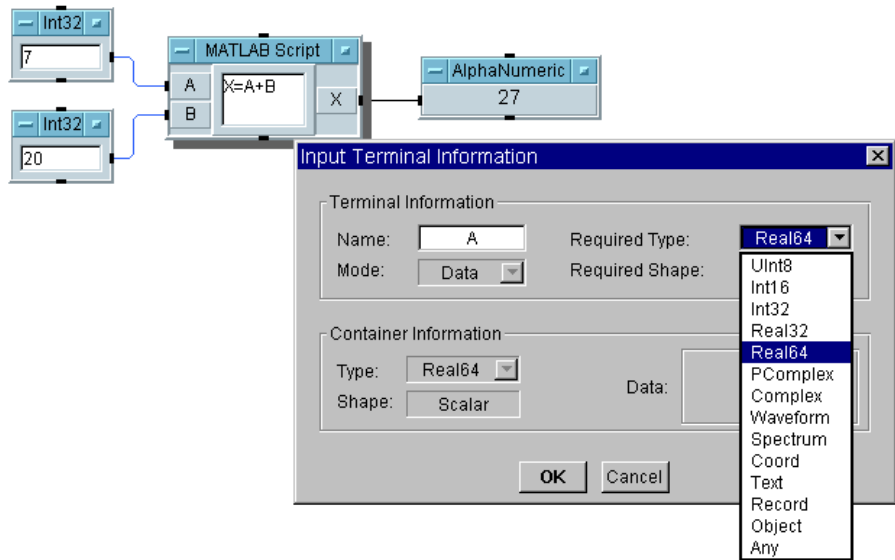

Figure 4-13. Changing Input Terminal Data Type
5. Double-click on terminal A to open the `Input Terminal Information` dialog box. Click on `Required Type:` to display the drop-down menu, select `Real64`, and click `OK`. Double-click on terminal B and change it to a `Real64` as well, as shown in Figure 4-13.